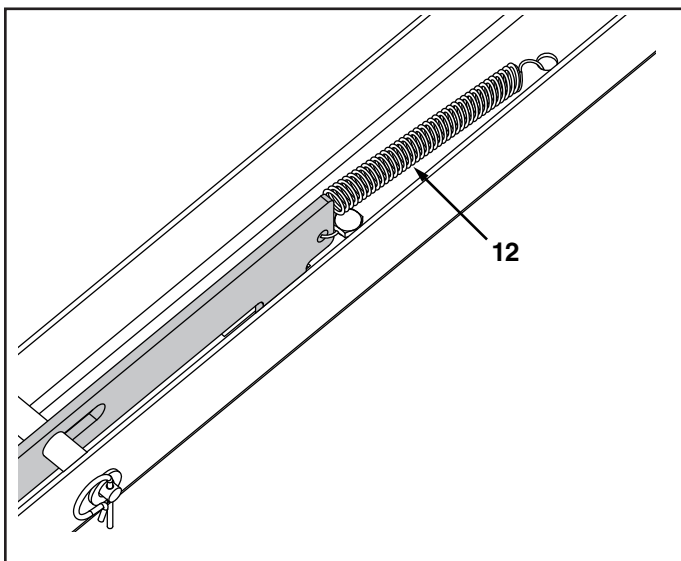

FIGURE 5
STEP 5: (SEE FIGURE 5)
1. Attach the extension spring (12) to the hole in the tongue and the hole in the latch.